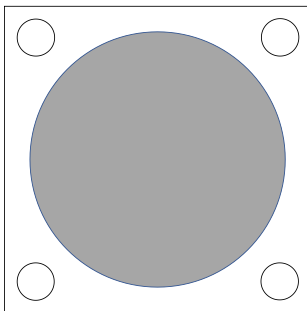

Figure 1. Post-Installation Surface Area of Arctic Silver 5 Thermal Compound
5. Inspect the mounting area to determine the thermal compound coverage obtained. The coverage should appear, roughly, as in Figure 1. The correct dispensed volume should be noted and used for future assemblies.